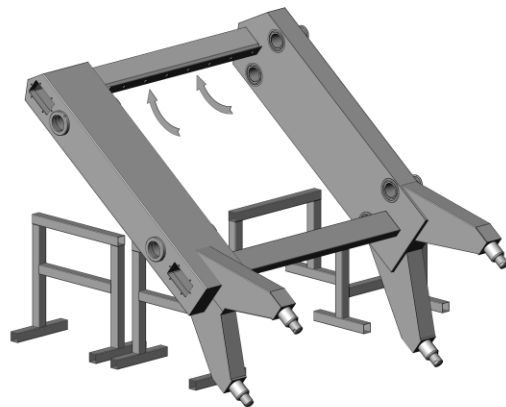

Figure 6-6
8. Using a forklift truck carefully stand the frame assembly upright, lifting it by the upper rail as shown in figure 6-6.